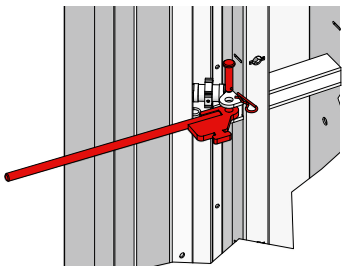

Fig. 17.3
2. The stop-end fixture is inserted into the "keyhole" at the rear end of the stop-end claw (Fig. 17.2 A and Fig. 17.2 B). Alternatively, the stop-end fixture can be mounted directly to the panel with bolt and cotter pin (at the elevation of the spindles) (Fig. 17.3)